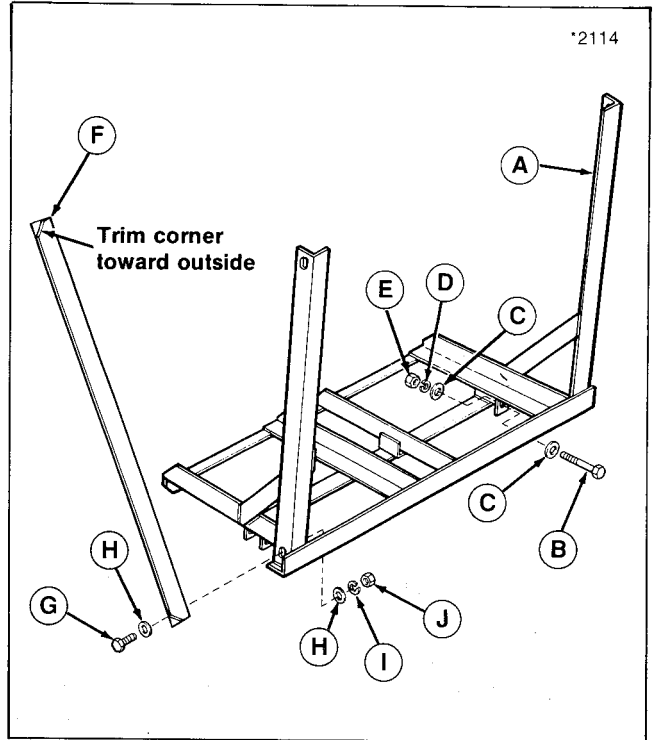

Figure 4.
11. Install rear frame (A, figure 4) over dual tail wheel frame and secure with two 1/2-13x3-1/2" capscrews (B), flat washer (C, 3/4" O.D.), lockwasher (D), and nut (E).
12. Install rear cover supports (F, figure 4) to bottom of frame and secure with 5/16-18x1" capscrews (G), flat washers (H, 3/4" O.D.), lockwashers (I), and nuts (J). Trim corners of supports should be on the outside of frame.